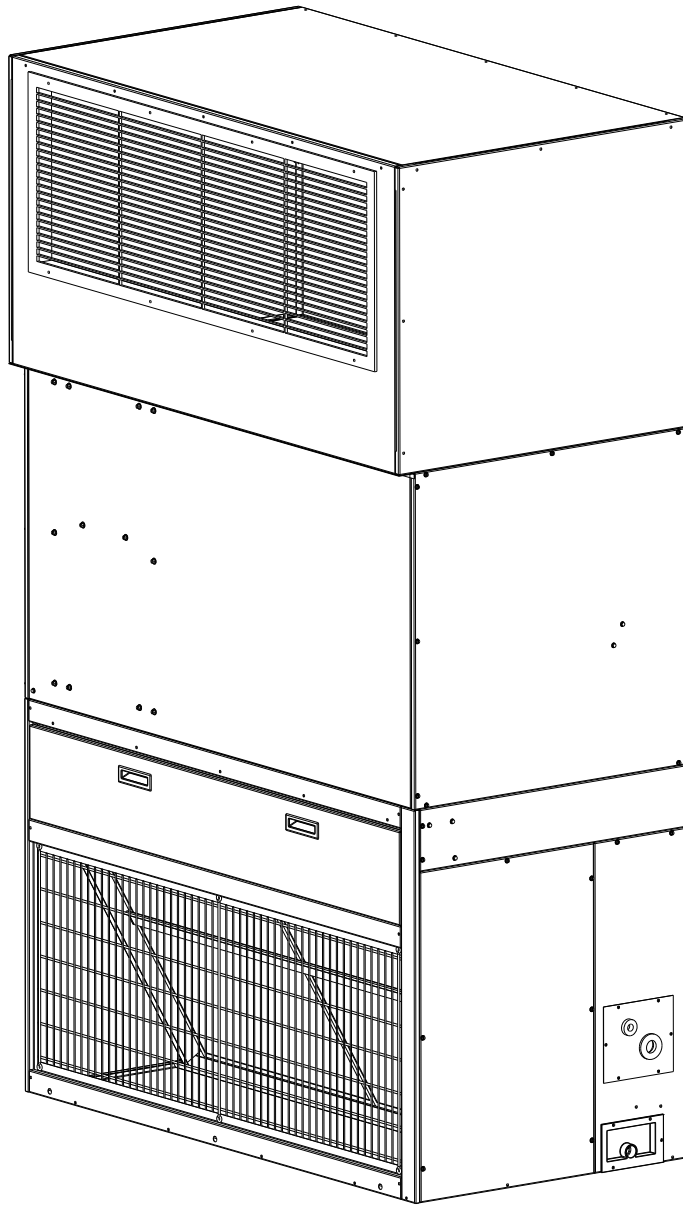

FIGURE 3 - SUPPLY AIR PLENUM MOUNTED ON UNIT
- Secure the plenum to the unit using the 0.500" #10 screws provided in Figure 3.